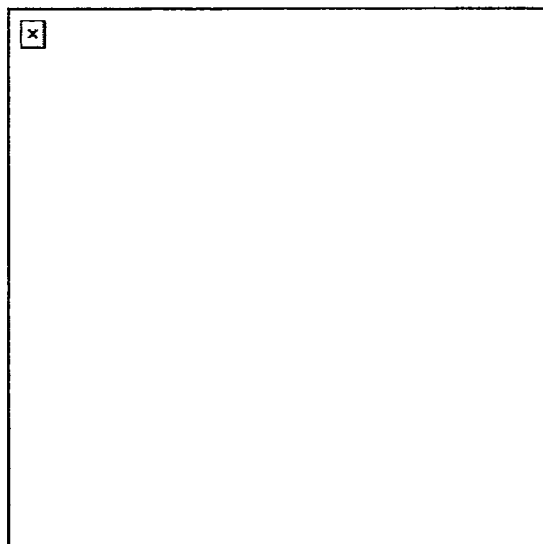

Figure 191-376-4119-4
10. Perform PMCS on the M37 riot control disperser, when issued, according to the TM. Refer to Figure 191-376-4119-4.